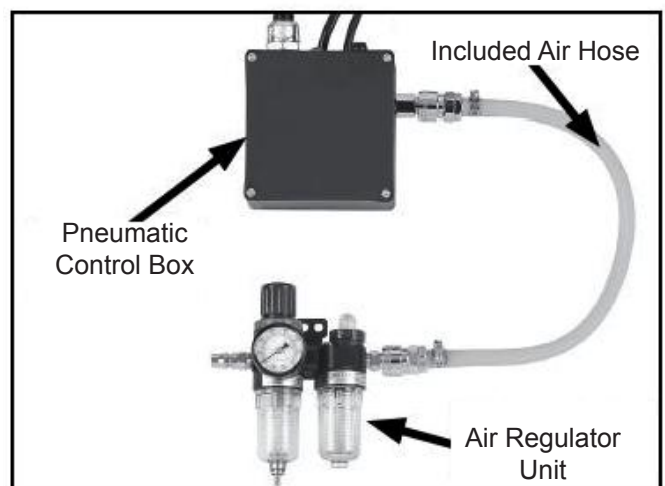

Figure 11. Example of the air regulator unit connected to the pneumatic control box.
7. Mount the air regulator unit on your mill so that the included air hose will connect this unit to the pneumatic control box (see Figure 11).